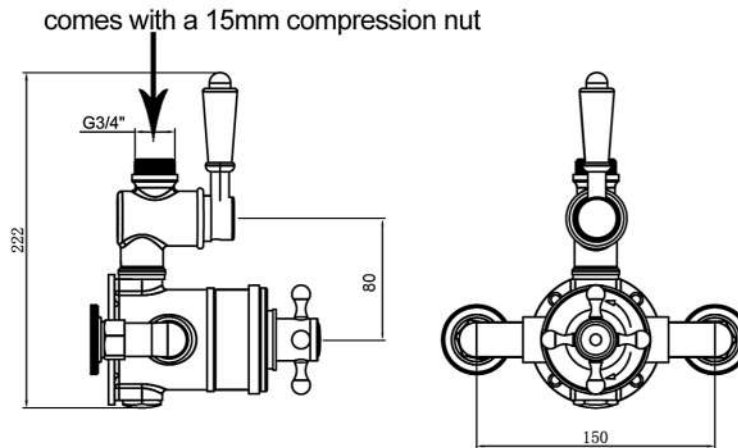

Fig 1:
- A) Remove the cartridge cap, ceramic ring and metal block (See Fig. 1)